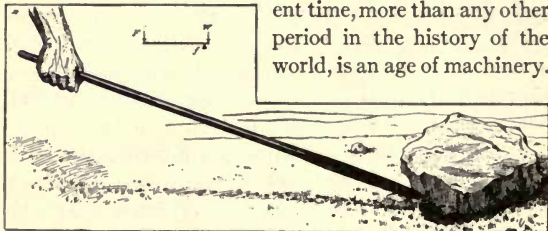
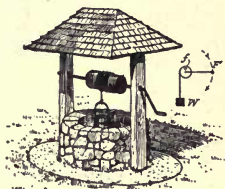
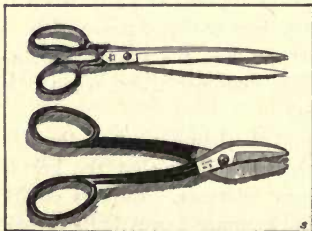

FIG. 209. A simple machine which increases the lifting power of man.
FIG. 210. A machine which gives an advantage in lifting power and in the direction in which the force is applied.
FIG. 216.
means of them we can make forces act through longer distances than the objects are moved, and thus magnify the power of the forces to do heavy work. When a man pries a stone out of the ground with a crowbar (Fig. 209), he greatly increases his lifting power by moving the end of the crowbar in his hands through a comparatively long distance while the stone is raised a much shorter distance. When we raise a bucket of water with a windlass (Fig. 210), we gain in lifting power by making the hand move through a wide circle while the rope is wound up and the bucket raised only a short distance. The lower pair of scissors shown in Figure 216 is used for cutting tin and iron. Do you see how the force acts through a greater distance than the blades move and that there is a gain in power when scissors of this kind are used? A "mechanical advantage" is secured by using machines of this kind.
The upper pair of scissors in Figure 216 is a pair of office shears for cutting paper. Do you see how distance is gained in the motion of the blades?
**The lever.** The crowbar is a good example of a lever, the most commonly used of all machines. Notice that in Figure 209 one end of the crowbar is pushed well under the stone, that a smaller stone has been crowded under the bar quite near the stone to be lifted, and that the man's hand is at the other end of the crowbar.
you will readily understand if you will consider the crank which turns the windlass ( $F$  to  $f$ ) the force arm, and one half the diameter of the windlass ( $f$  to  $W$ ) the shorter weight arm (Fig. 210).